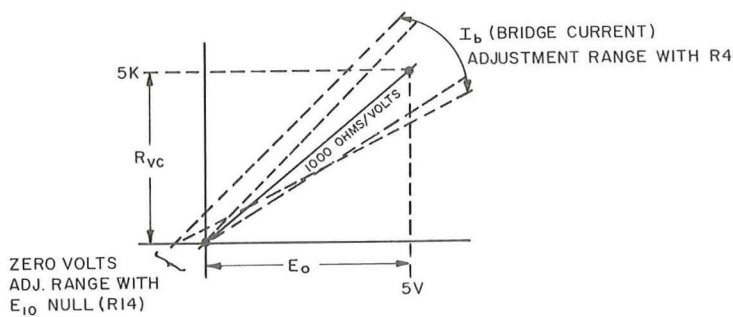

FIG. 3-5 ESTABLISHING PROGRAMMING LINEARITY
- e) Open S1 and check the 5 volt reading. Repeat "c" and "d" as necessary to achieve the desired accuracy. FIG. 3-5 below shows graphically how the programming ratio can be precision adjusted.